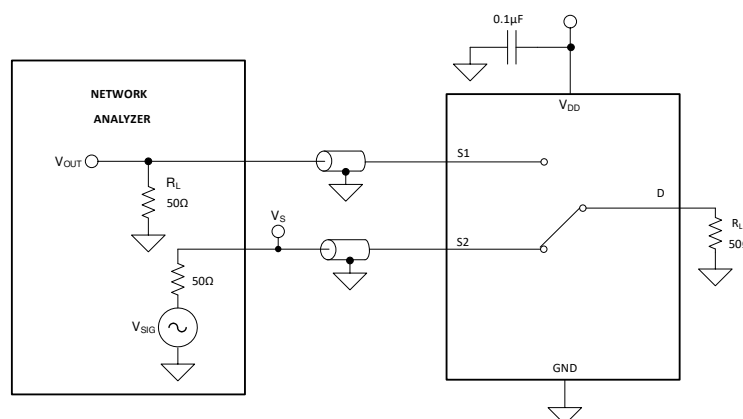

图 6-8. Crosstalk Measurement Setup
Crosstalk is defined as the ratio of the signal at the drain pin (D) of a different channel, when a signal is applied at the source pin (Sx) of an on-channel. 图 6-8 shows the setup used to measure, and the equation used to calculate crosstalk.